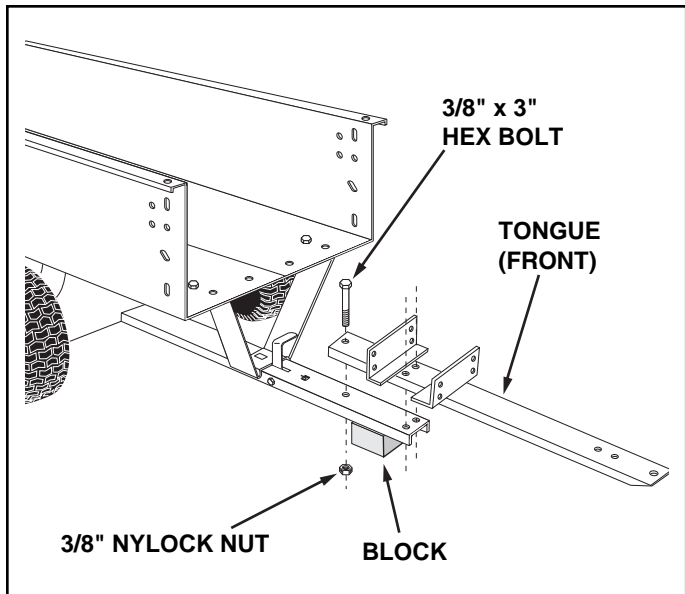

FIGURE 8
14. Assemble the front tongue on top of the rear tongue using three $3/8"$ x $3"$ hex bolts and $3/8"$ nylock nuts. See figure 8.